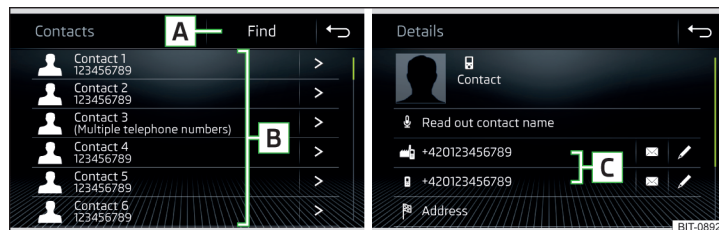

Fig. 210 List of telephone contacts / contact details
- › In the *Telephone* main menu, tap on the function surface **[]** and a list of telephone contacts will be displayed » Fig. 210.